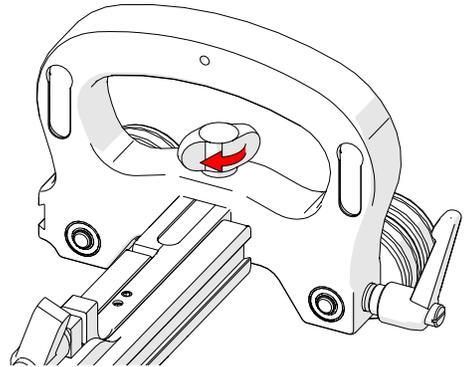

Fig. 25 - Tighten wing knob
3. Tighten the wheel block with handle wing knob (Fig. 25).